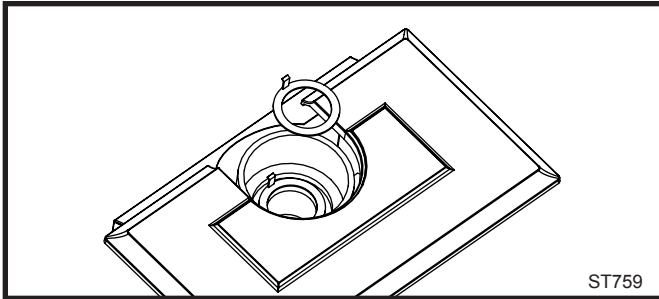

Fig. 16 Install the restrictor plate only if required for the venting configuration. Refer to Page 8.
1. Install the Restrictor Plate. Consult the 'Vent Run Specifications' on Page 8 to determine whether the restrictor plate is needed. If so, put the restrictor plate in place within the inner flue collar as shown in Figure 16.
- 1. Install the Restrictor Plate.** Consult the 'Vent Run Specifications' on Page 8 to determine whether the restrictor plate is needed. If so, put the restrictor plate in place within the inner flue collar. (Fig. 16)